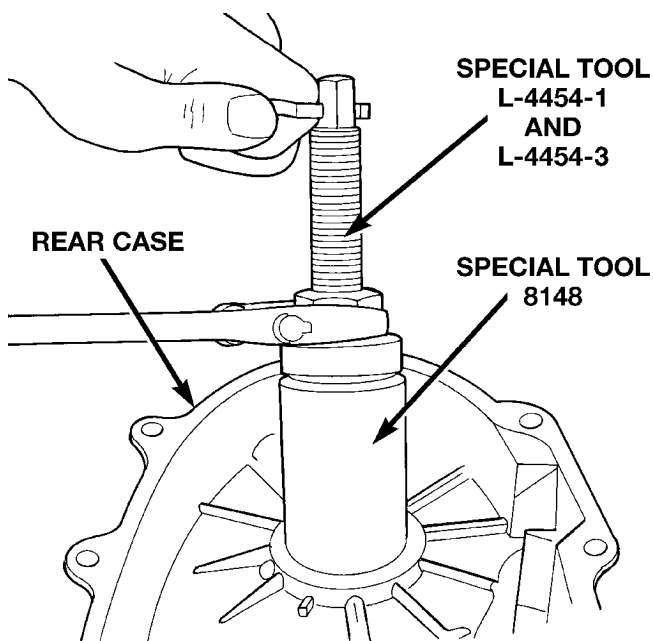

Fig. 57 Remove Front Output Shaft Rear Bearing
(12) Remove output shaft rear bearing with the screw and jaws from Remover L-4454 and Cup 8148 (Fig. 57).